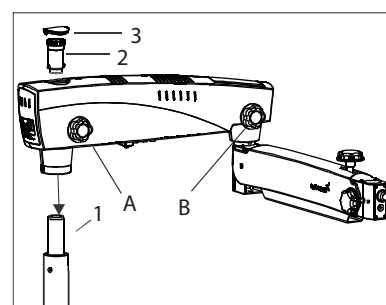

Fig.43
3 Remove the arm assembly from the box and follow the instructions below (see Fig.43).
Do not unscrew knob A completely (see fig.43). loosen only a few threads; otherwise the lock ring inside the column guide may disconnect and installation may not be possible.
B. Place the arm assembly on the column shaft (1) shown in Fig.43.
C. Screw in the threaded plug from the top (2).
D. Put the protective cap (3) in place, and loosen the suspension arm locking knob (B) so that it can be rotated.
- Take out Foot Switch from locking connect to the Switch arm Refer C in fig 43 .